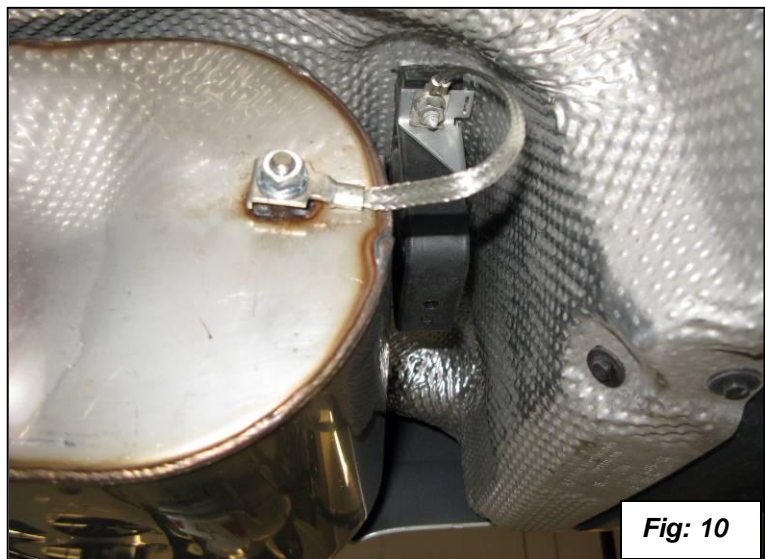

Fig: 10
13. Install each muffler by pushing the rear hanger rod on the muffler into the hangers you installed in step 9 and rotate the muffler into position. Attach the side hanger on the car with just the front nut for now. Attach the ball socket onto the resonators and place the clamp over it just snug for now. Attach the front hangers to the differential and torque to 35Nm (26 ft-lbs.). Install the rear side hanger nut with the ground strap as shown in figure 10. Adjust the muffler for best fit centering the exhaust tips in the bumper cut out. Tighten the clamp on the ball socket.